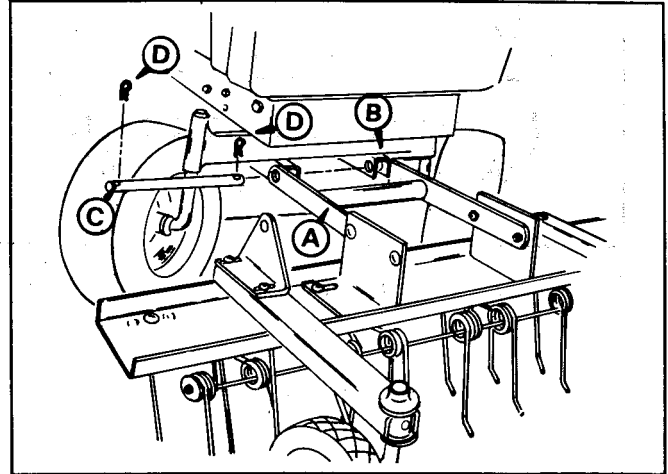

FIGURE 10.
FIG. 10. Turn tractor wheels to the right and align the main frame (A) with the tabs located on the front of the tractor axle (B) and slide the pivot rod (C) through the holes in the main frame and axle. Secure in place with two hair pin cotters (D).